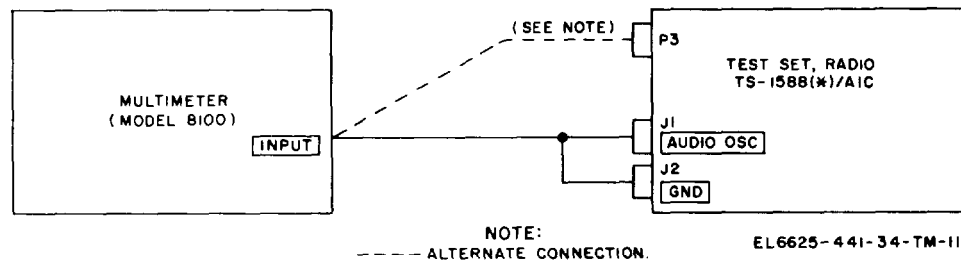

Figure 4-1. Test Set, Radio TS-1588 (*)/AIC resistance check connection diagram.
(fig. 4-1)
(1) Remove the cover from the interphone test set.
(2) Connect the Model 8100 to the interphone test set as shown in figure 4-1.